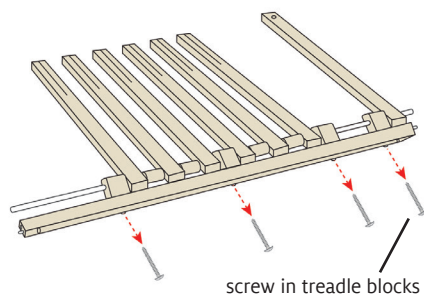

FIGURE 6: REMOVE THE TREADLE BLOCKS
10. Remove the screws attaching the treadle blocks (TB) to the treadle support, as shown in Figure 6. Set aside the treadle support.
11. Remove all parts from the metal treadle bar, saving the plastic spacers (S), treadle blocks (TB), wooden dowels (D), and washer (W) for the next step.